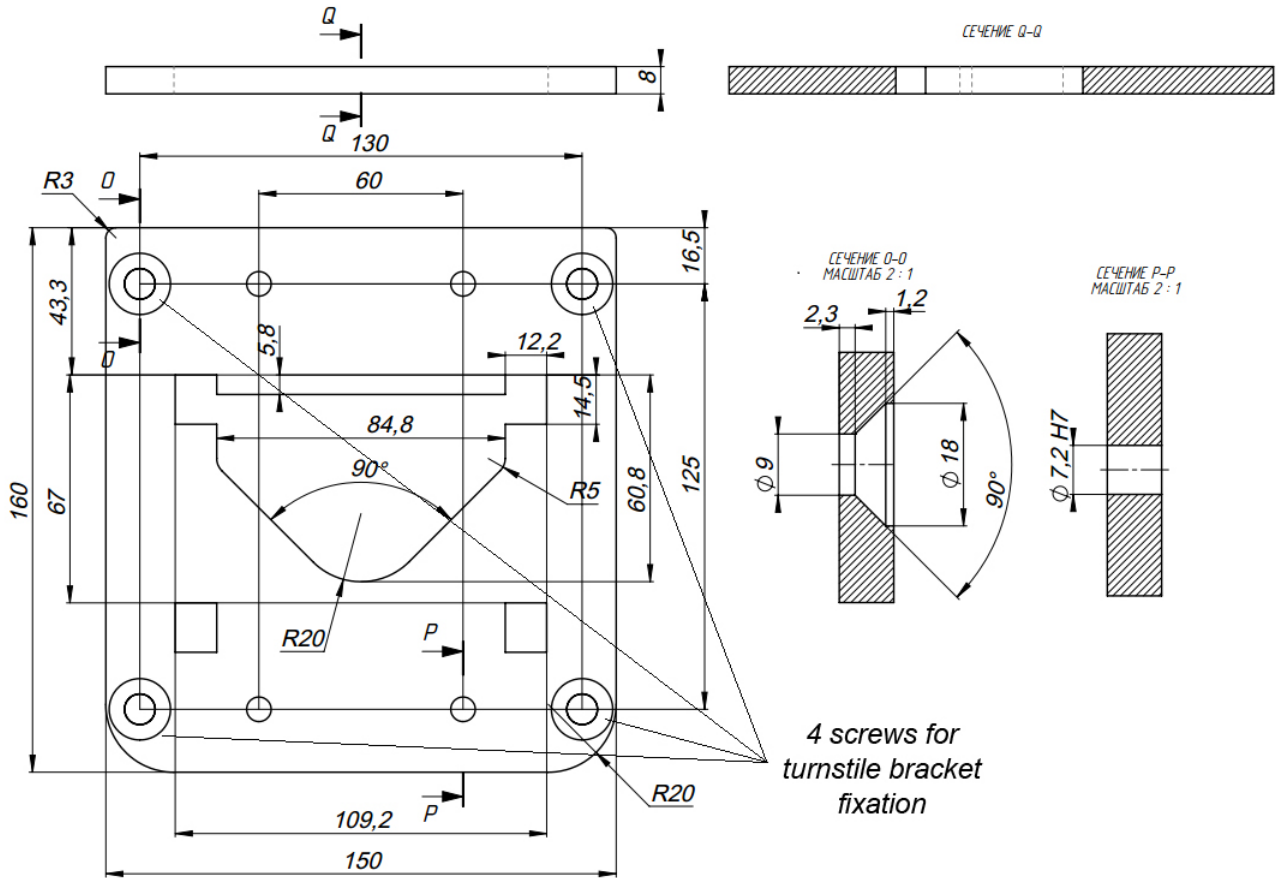
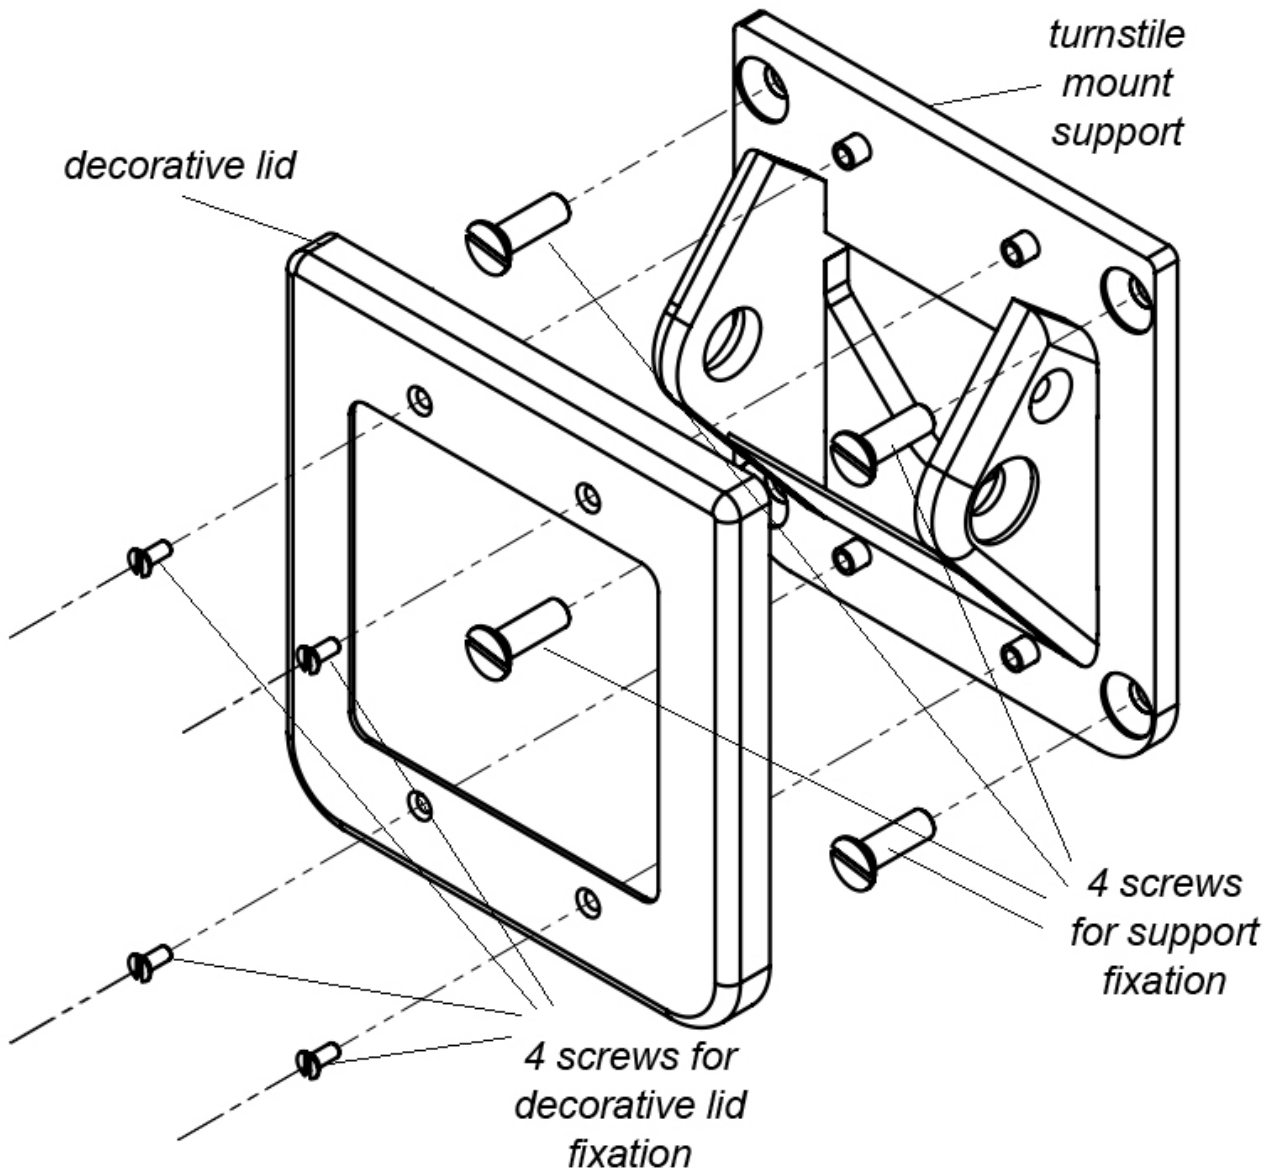

Fig. 6. Installation dimensions
Fig.7. Installation diagram of the turnstile bracket support
4.2.4 According to the setting dimensions (Fig.6), prepare 4 holes 10 mm in diameter in the wall for fixation anchors of the turnstile bracket (recommended anchor MSA8 with the screw of DIN7991 M8x25). Depth of the hole 35 mm should exceed the length of the anchor for more than 5mm. Insert the anchors in the holes and fix support for mount bracket with the screws M8x25 to the wall. With 4 screws fix decorative lid to the turnstile mount support as on the Fig.7. Fix the blocking arms unit to the mount support with the fastening sleeve and sleeve fixation screw.